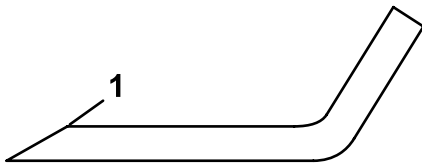

Figure 31
1. Use a file to sharpen the cutting edge at both ends of each blade (Figure 31). Maintain the original angle. The blade retains its balance if you remove the same amount of material from both cutting edges.